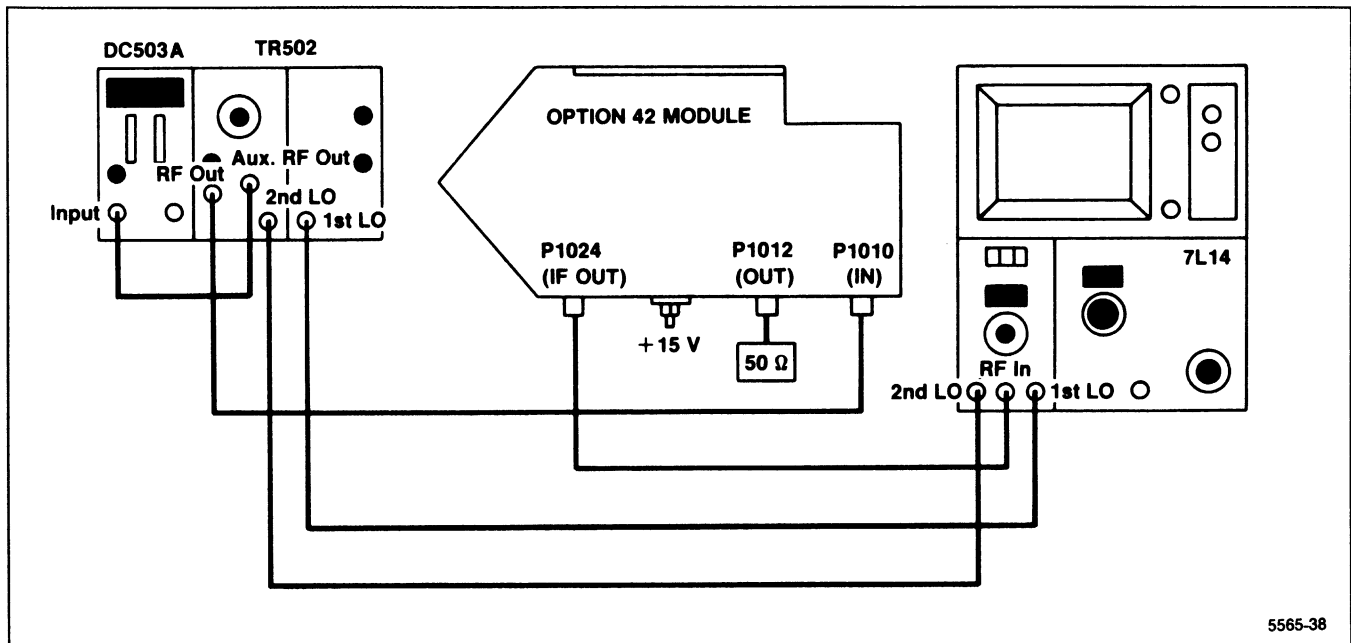

Figure 5-28. Option 42 adjustment test equipment setup.
a. Connect the test equipment as shown in Figure 5-28.